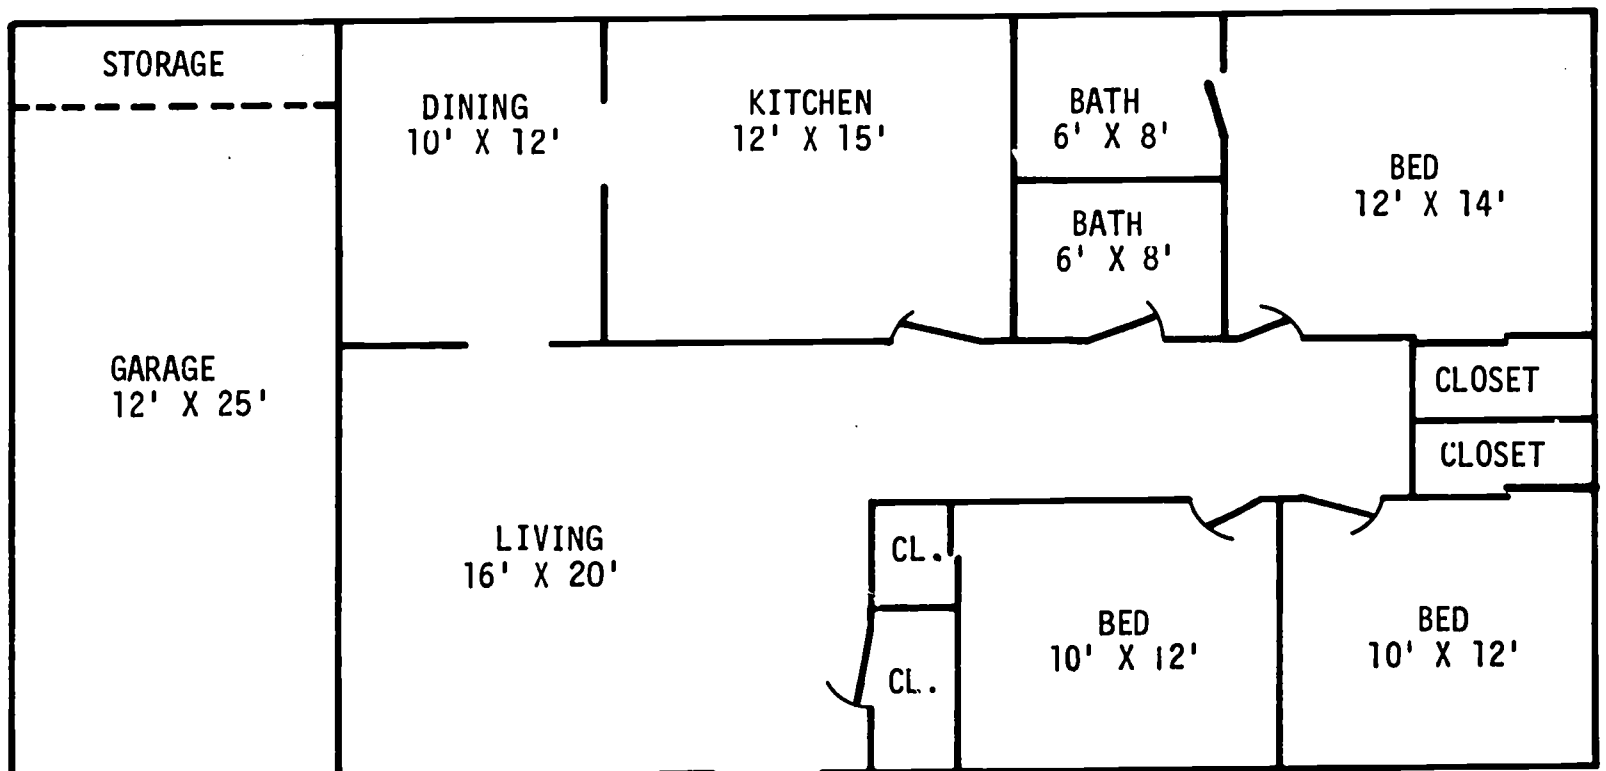

Fig. 143-1. These Rooms Should Be Traced and Cut Out for Use with Transparency 143-2, a $\frac{1}{8}$ " Grid
* Before beginning his presentation, the teacher should trace the floor plan in Fig. 143-1 and cut along the wall lines to make pieces for use with Transparency 143-1.